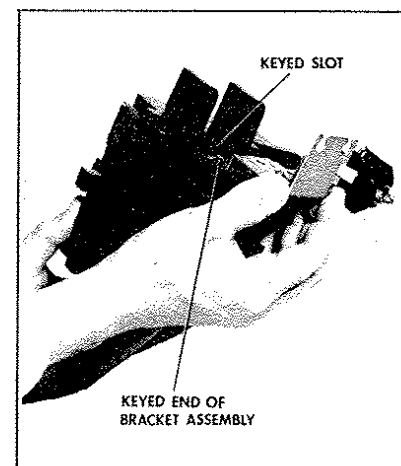

Figure 3. Installation of mounting bracket
4. Take molded arc chute cover and insert keyed end of bracket assembly into keyed slot at the top of the molded cover, see Figure 3.